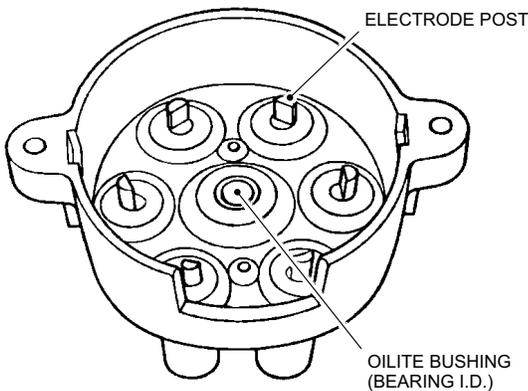

Figure 3.3.9
2. Inspect the brass electrode posts for signs of physical wear. Replace the block assembly as necessary. During normal operation, the post will experience an electrical-metal transfer with the distributor gear electrode. This condition is normal and not cause for rejection. (See Figure 3.3.9).